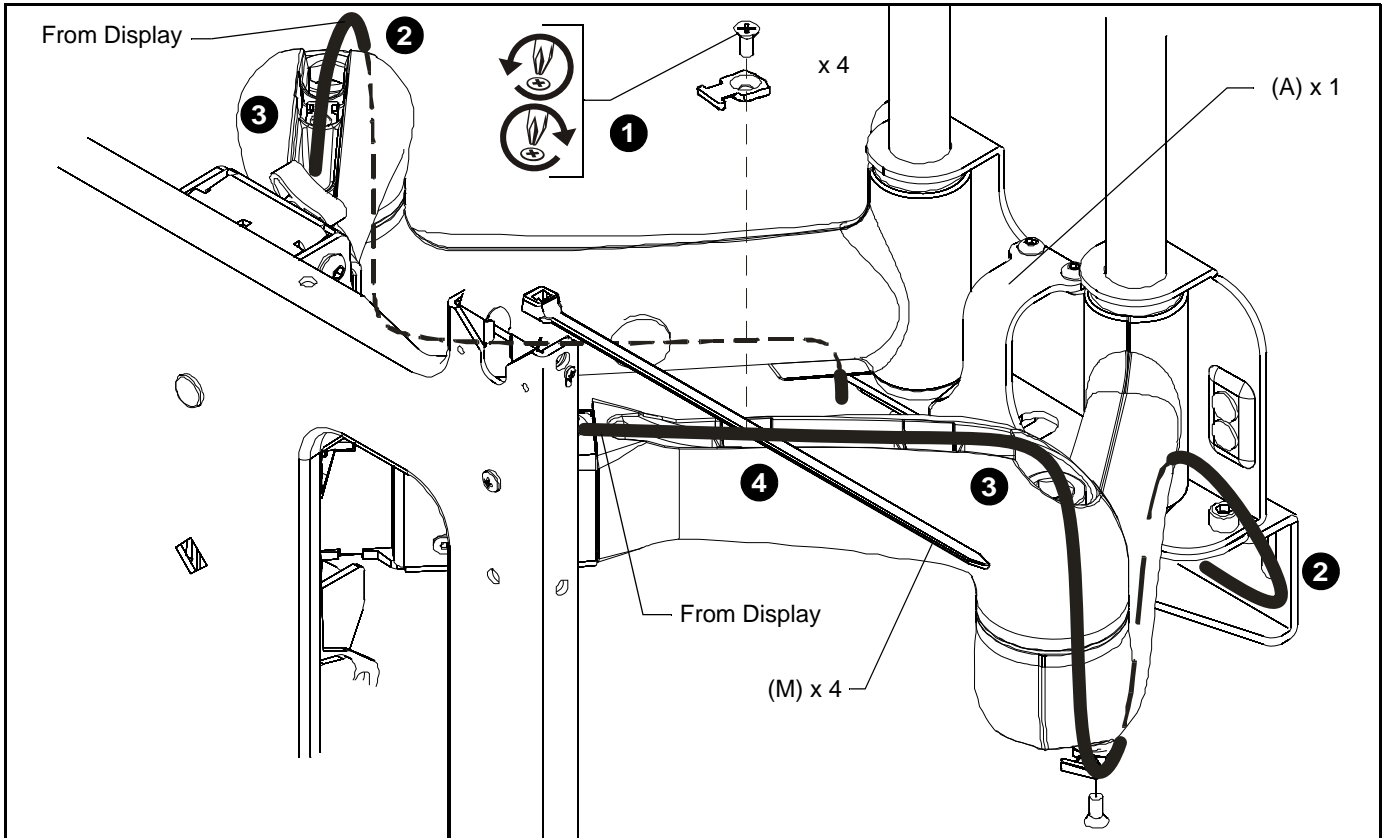

Figure 7
1. Loosen front and rear cable clamps on top arm. (See Figure 7)
2. Thread cable ties (M) under cable clamps and secure clamps to top arm. (See Figure 7)
3. Route power/audio/video cables through the cable channel in top arm (See Figure 7), allowing sufficient slack in cables for left/Right movement of display and swing arm and also swing arm extension and retraction.
4. Secure cables to top arm using two cable ties (M).